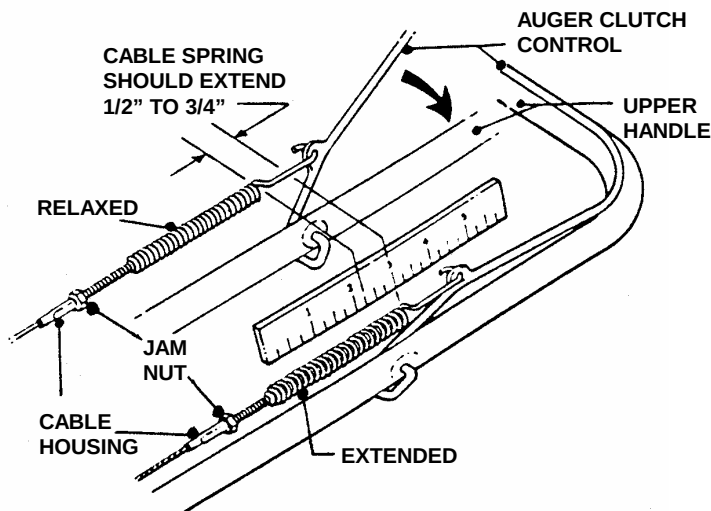

FIGURE 5.1
1. Measure control cable extension from a relaxed position to full extended position. Move control lever against handle. Measure the overall length of the spring. The length of the cable spring should increase by 1/2" to 3/4" when the clutch control is depressed. See Figure 5.1.